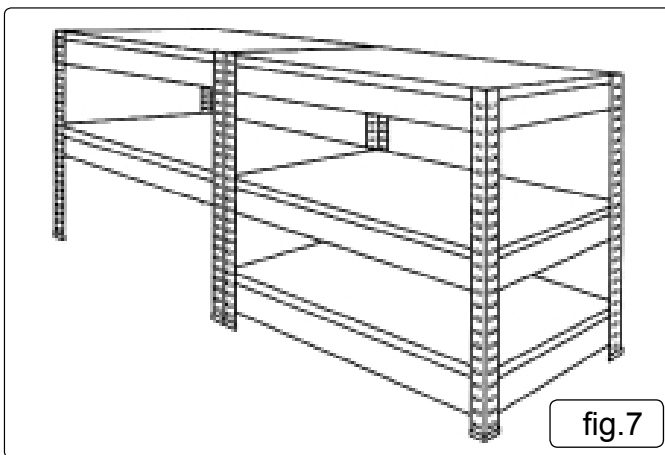

fig.7
5.8. See fig.7. To assemble as a bench/low level shelving unit make up two separate frames following steps 4.1 to 4.3 but with different shelving positions. Make up one frame with 3 shelves and one frame with two shelves as shown below. Ensure that the middle and top shelves on both frames are at the same height. Fix the frames together with the four nuts and bolts supplied. Place the 5 MDF shelves into position in the frames.